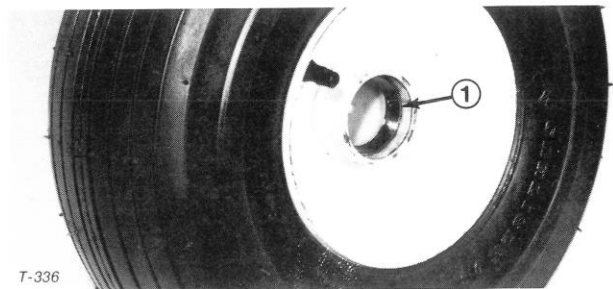

Figure 33
4. Check the bearing cups (Fig. 33) for wear, pitting or other noticeable damage. Replace defective parts. If bearing cups were removed from the wheel hub, press them into the hub until they seat against the shoulder.